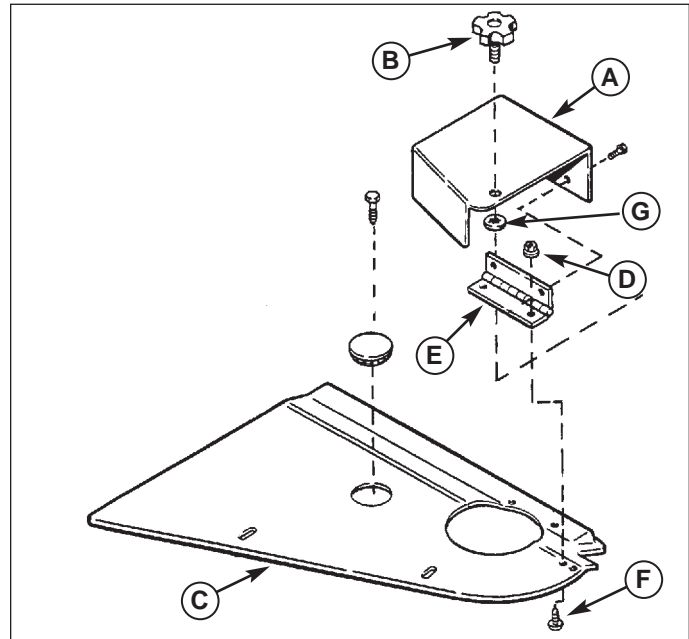

Figure 2. Assemble the New Cover
3. Assemble the hinge (E) to the new belt cover (A) using hardware provided (D, F) as shown in Figure 2.